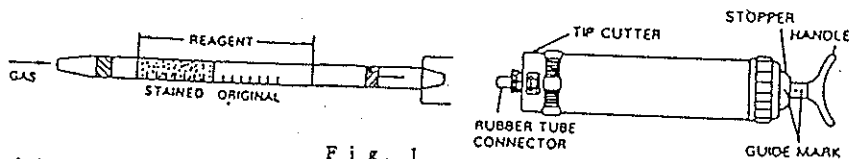

Fig. 1
- ② Insert the detector tube into aspirating pump securely as shown in Fig.1. (Arrow mark shall point to the pump.)
- ③ Align the guide marks on the shaft and stopper of the aspirating pump.
- ④ Pull pump handle to full stroke until it locks and wait for 1.5 minutes or until confirmation that sampling is completed (See descriptions of the flow indicator in the pump instructions).